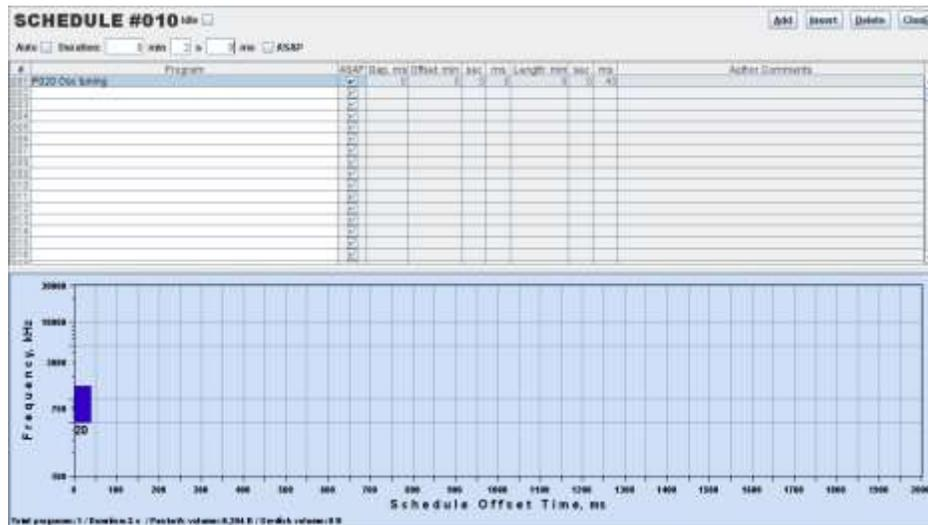

Figure 2: 2 second duration schedule
4.3 Next, a two second schedule should be created that contains the *Osc Tuning* program. Within the DCART *EDITED PROGSCHED / Schedules* tab create the following two second duration schedule shown in Figure 2, and name this schedule *Osc Tuning*. This schedule may already exist from previous oscillator adjustment in which case check that the duration is set to 2 seconds, not 1 second. The name of the program may not be exactly *Osc Tuning*.